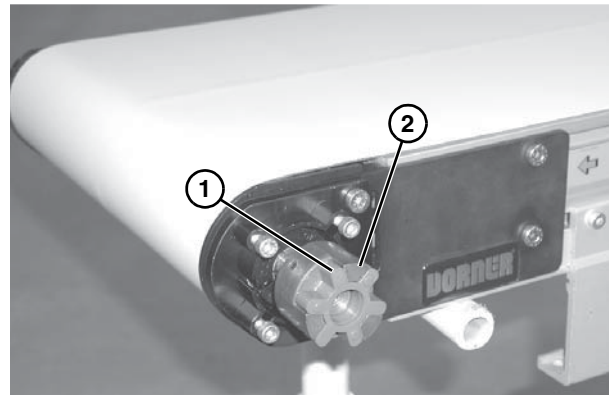

Figure 4
2. Install spider bushing (**Figure 4, item 1**) in three jaw coupling (**Figure 4, item 2**).